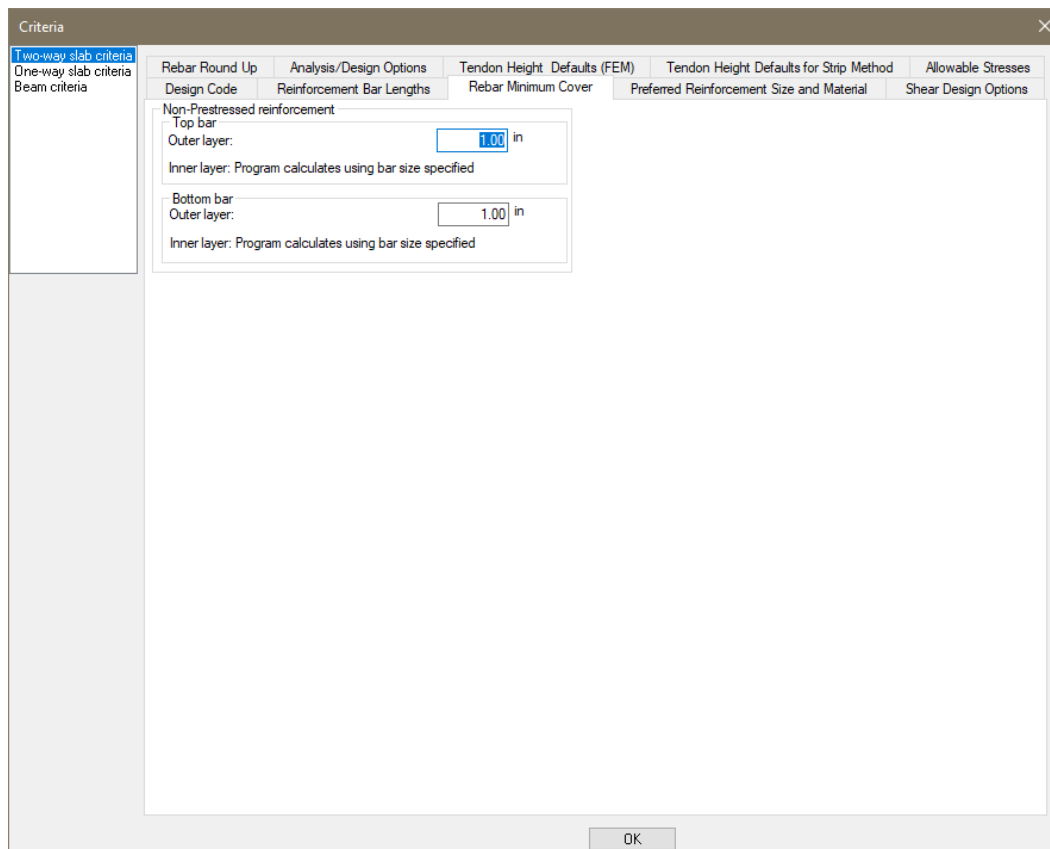

Figure 2-14
- Click on the *Rebar Minimum Cover* tab. This will open the window from **FIGURE 2-14**.